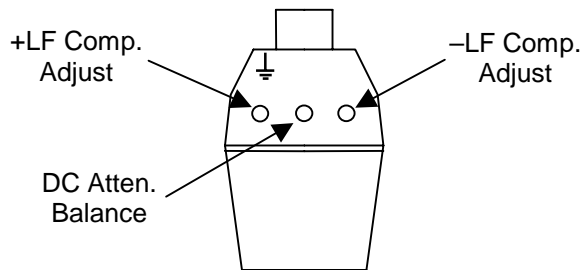

Figure 8. Attenuator Adjustment Locations
11. Using the square adjustment tool, adjust the **+LF Comp** (See Figure 8) to achieve the best square corner and flat top of the displayed waveform. Note that the added capacitance of the adjustment tool may change the compensation of the waveform when it is inserted. The correct adjustment is achieved when the best corner is displayed with the adjustment tool removed.
15. The displayed waveform is the common mode response. Using the adjustment screwdriver with the flat blade, adjust the DC Atten. Balance (Figure 8) to minimize the amplitude of the flat portions of the displayed waveform. This adjustment only affects the flat portions of the square wave. Do not be concerned with any overshoot at the transitions.
18. Using the 0.025 in. square adjustment tool, adjust the **–LF Comp** (Figure 8) to minimize the amplitude of overshoot